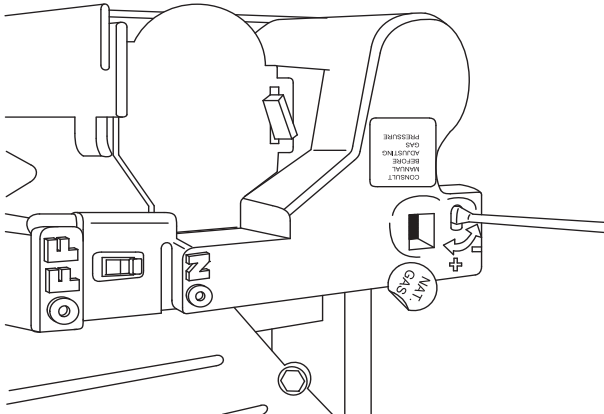

Fig. 25 – Modulating Gas Valve Adjustment
- b. Furnace controls with 3 digit display, navigate to (HHE) and select (SE) for a single-stage thermostat, (SE-LHE) for a two-stage thermostat running low heat, or (SE-HE) for a two-stage thermostat running intermediate heat. See furnace installation manual for additional instructions. Turn gas supply manual shutoff valve to OFF position.
10. On some models, apply pipe dope sparingly to end of 1/8-in. (3 mm) pipe plug and install in the manifold pressure tap opening, see Fig. 7. Or, on some models, tighten set screw on manifold tower pressure tap with a 3/32-in. hex wrench, see Fig. 25)